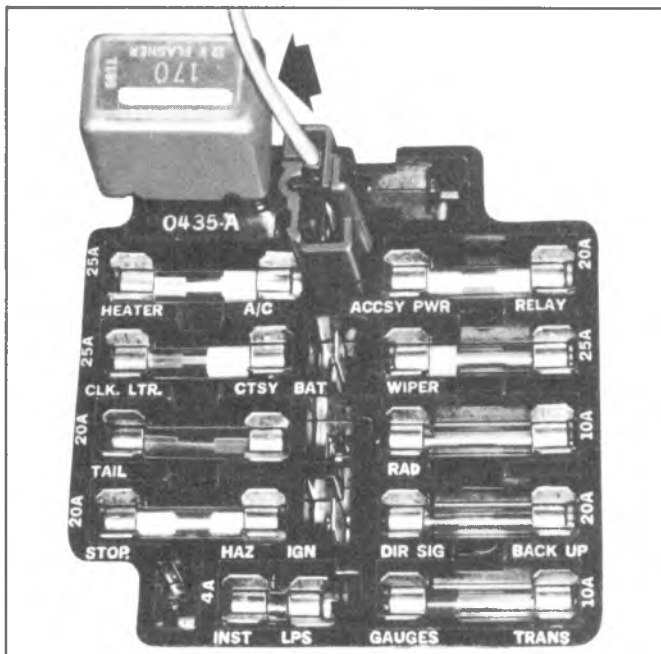

Fig. 3B-14--Checking Hazard Warning Flasher
1. **Check fuses** (Figure 3B-12). Replace if blown. If new fuse blows, replace flasher in system. (There are 2 flashers in the signal switch system. The hazard warning flasher and turn signal flasher are located on the fuse block.